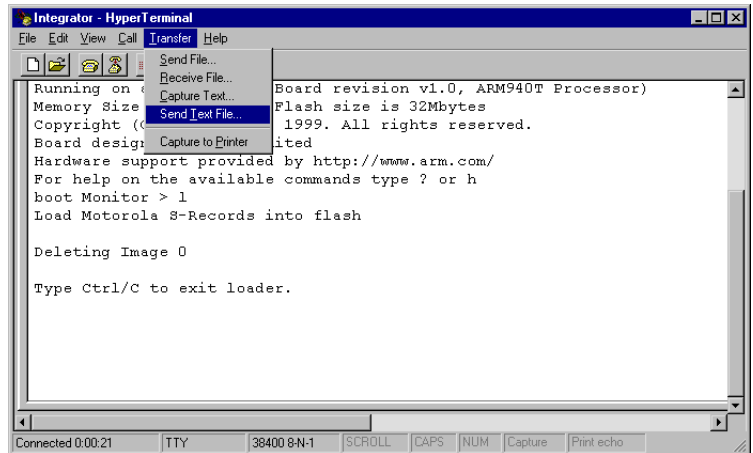

Figure 3-16 ASCII transfer
- b. Select the menu option for transferring an ASCII file (see Figure 3-16 on page 3-19).